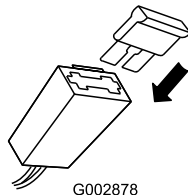

Figure 25
2. Insert the fuse into the fuse holder (Figure 25).